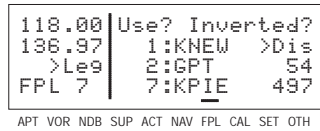

Figure 4-116
1. Display the flight plan (FPL 0, FPL 1, . . . , or FPL 9) which is to be cleared (figure 4-116).